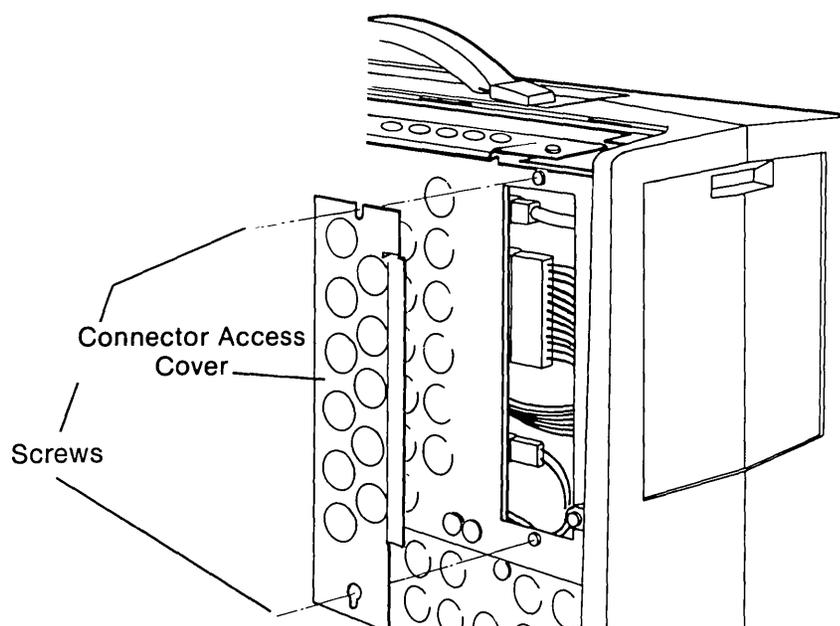

Figure 11-22. Replacing the Processor Board Connector Access Cover.
4. Replace the narrow access cover and tighten the two (2) screws, to secure the cover over the processor board connectors (see Figure 11-22).